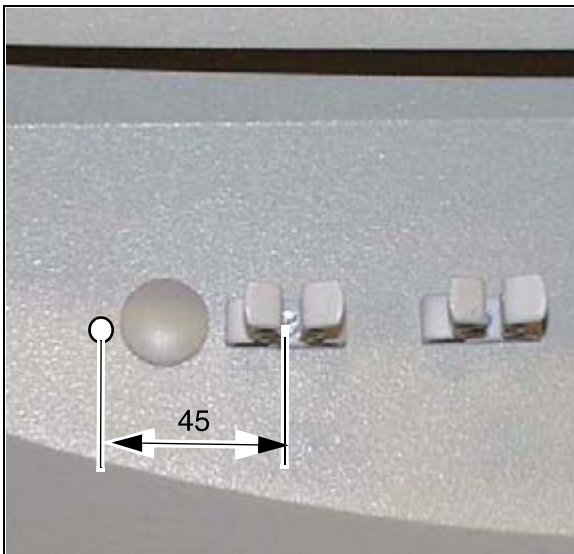

Fig. 53: Connector mount
- If none of the three connector mounts (Fig. 53 / p. 50) is present yet, drill a 2.5 mm hole (see: (Fig. 53 / p. 50)). Mount the connector mount in the same way as the adjacent ones.